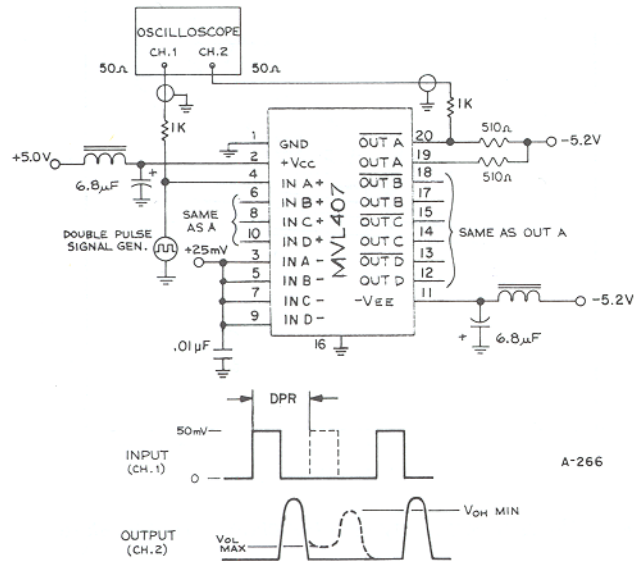

Figure 5
- Double pulse resolution is defined as the minimum pulse pair spacing at which the MVL407 responds to the second pulse of the pair. The output levels of the second pulse must cross  $V_{OH}$  and  $V_{OL}$ . See Figure 5.
full amplitude output. The delay of the second pulse was reduced until a degradation of output amplitude was noted. The closest spacing of the input pulse pair which will produce a second pulse of full output amplitude is considered to be the DPR (Figure 5).